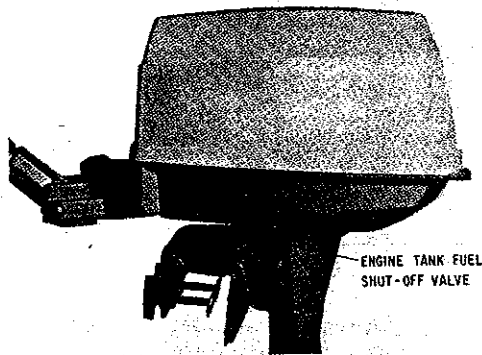

Figure 2. Engine fuel tank shut-off valve is located on post side of engine.
- (2) Close engine fuel tank shut-off valve if also equipped with engine mounted fuel tank. (See Figure 2).